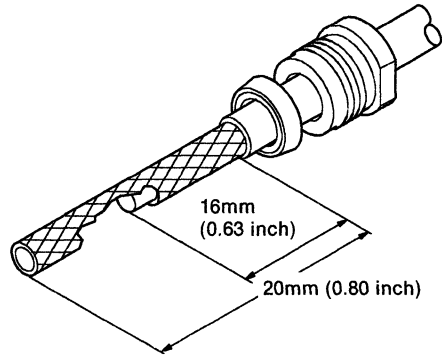

Figure 13. Cable Core and Conductors
2. Cut the end of the cable sharp and square. Then slide a clamp nut and clamp gasket over the cable jacket and trim the jacket to the dimension given in Figure 13. Push the wire shield back to expose the inner insulation core, and cut the core and conductors to the dimension shown (16 millimeters [0.63 inch]). Slide the wire shield back over the core, and taper it to a point for ease of braid clamp assembly in step 3 on page 29.